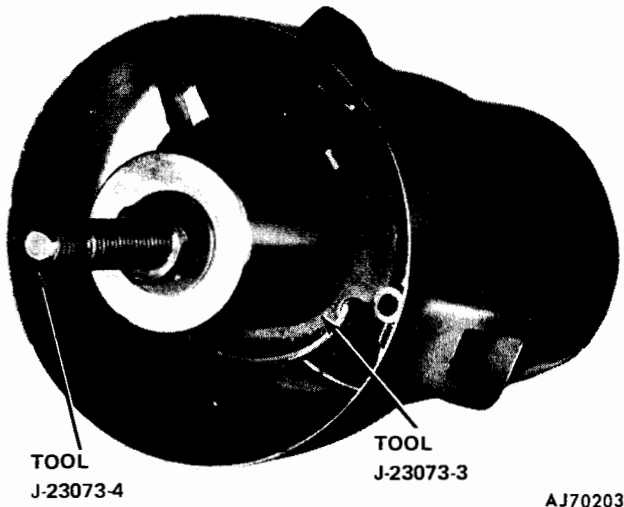
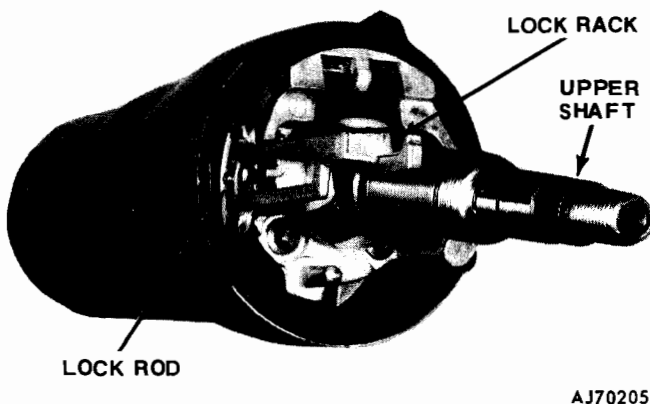

Fig. 11-46 Pulling Shift Tube into Bowl
Fig. 11-47 Lock Rack and Remote Rod Position
(6) Place Receiver Tool J-23073-3 and -4 over puller stud and tighten puller nut to pull tube into bowl (fig. 11-46).
(7) Install shift tube thrust washer and shift tube retainer snap ring.
(8) Install lower bearing (with metal face toward retainer), retainer, and snap ring.
(9) Install pin and shift gate on upper support and install upper support. Align V-notch in support with notch in column (located at 9 o'clock position).
(10) Install four retaining screws.
(11) Assemble steering shaft and install in column.
(12) Place bearings (14 balls each) in upper housing (if removed).
(13) Install tilt handle.
(14) Insert ignition switch remote rod between shift bowl and mast jacket and into guide channel in left side of upper support.
(15) Place lock rack on remote rod (fig. 11-47).